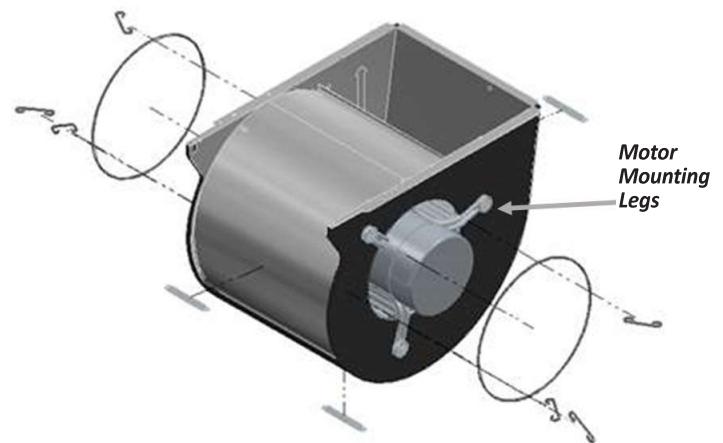

Figure 4 - Blower Housing Insulating Retaining Hardware
- Once blower insulation has been installed, install Retaining Rings, Hooks, and Springs as shown in Figure 4 below. Retaining Ring is to be installed UNDER the Motor Mounting Legs of the blower. To do this, slightly bend open the Retaining Ring and slide under blower legs, rotating into place. Hook and spring installation are detailed in steps 4 and 5.